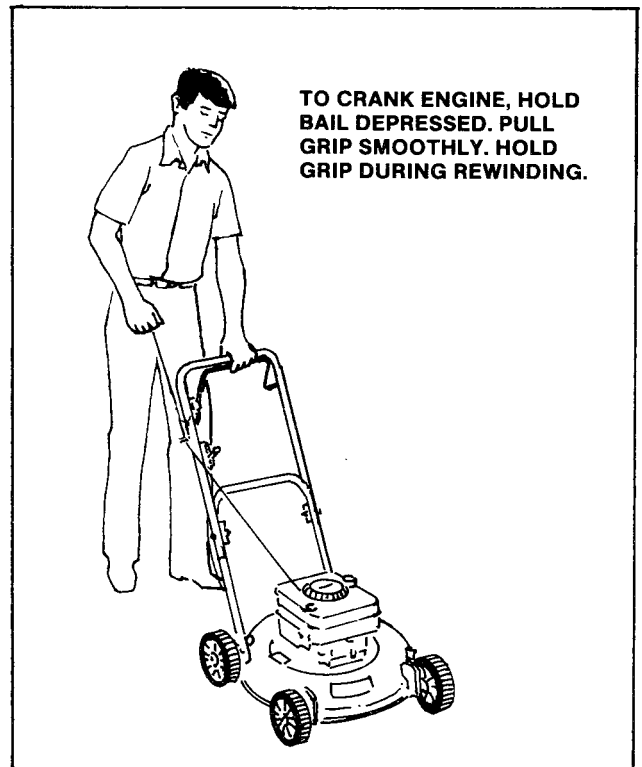

FIGURE 6
## STEPS FOR STARTING AND STOPPING ENGINE (See Figure 6)
3. Depress and hold the *bail* against the upper handle. (See Figure 6.) The bail is part of the safety and engine stopping system. The engine cannot be started if the bail is not depressed. The engine will stop running when the bail is released.